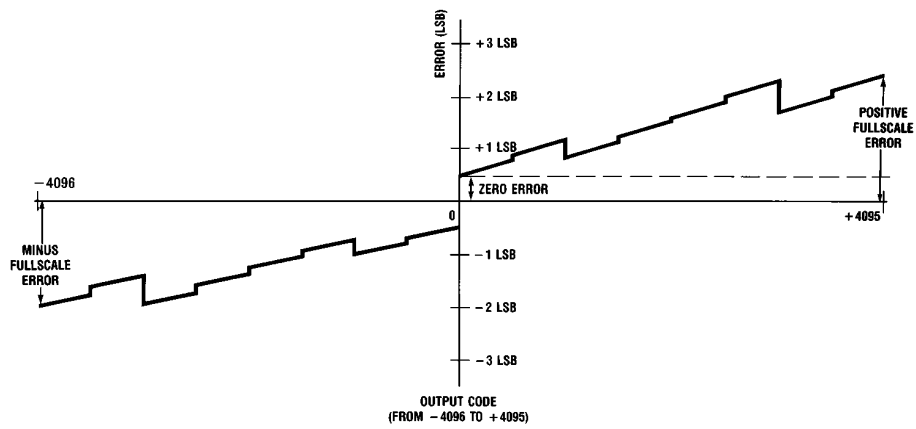

FIGURE 1b. Simplified Error Curve vs. Output Code Without Zero and Fullscale Adjustment
**Note 11:** Linearity error is defined as the deviation of the analog value, expressed in LSBs, from the straight line which passes through positive full scale and zero, after adjusting zero error. (See Figures 1b and 1c).